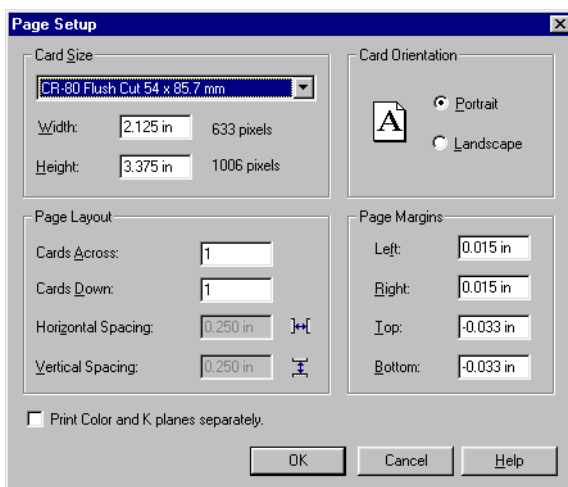

Figure 11: Page Setup for a Badge
5. After you have selected your printer, click on File ⇒ Page Setup. The Page Setup window appears (see Figure 11).